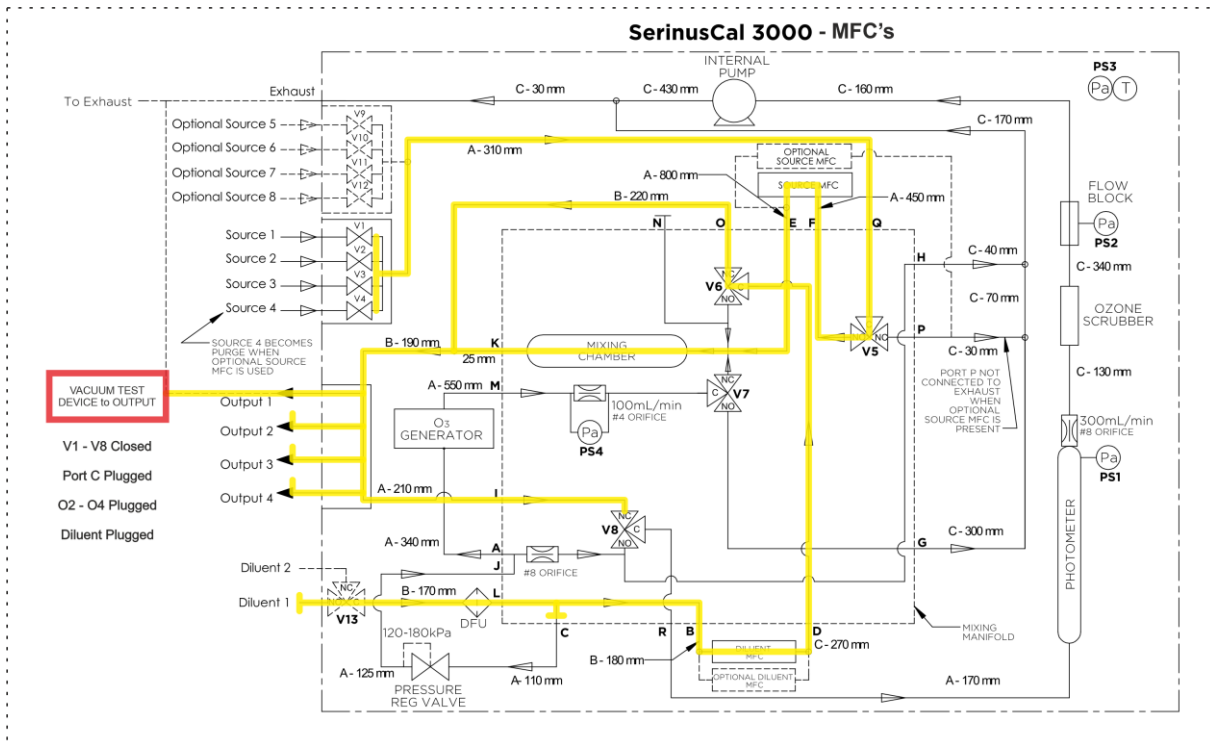

Figure 171 – Leak Check: Isolate MFC's Schematic
- If the leak test fails the MFC plumbing is leaking. Refer to Figure 171 and work away from the vacuum test device to further isolate and rectify leak.